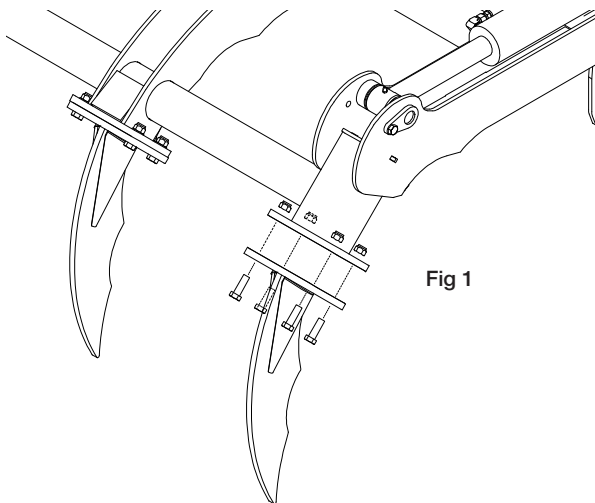

Fig 1
4. If any of the grapple teeth are bent and need replacing, remove the 4 X M12x35 long bolts. Repair or replace the tooth and tighten the bolts to 77Nm torque (**Shown in Fig 1**).